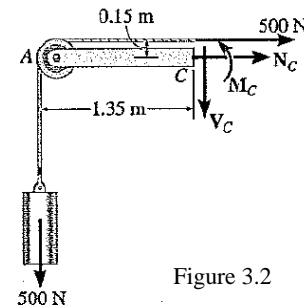

Figure 3.2
**Free-Body Diagram.** See Fig. 3.2